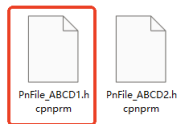
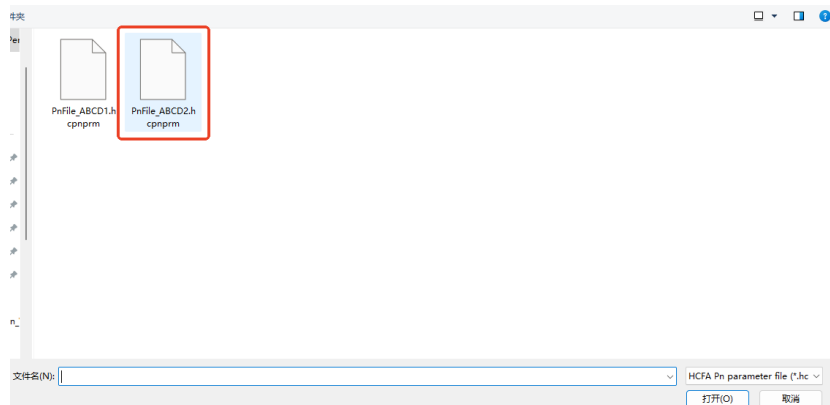
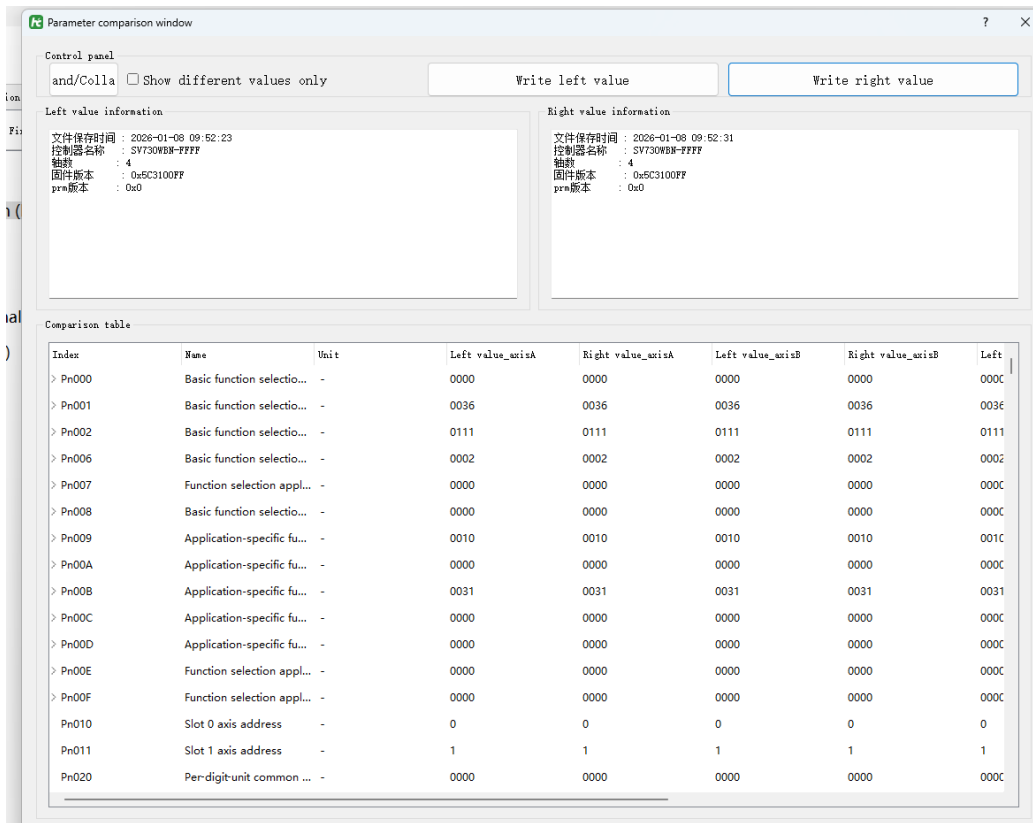

Figure2-21
Figure2-22
Figure2-23
12) Click the icon next to the Compare Current Values – Factory Defaults button and select the File Comparison option. This will open the Import Left Value dialog as shown in Figure 2-21. After confirming and opening the first file, the Import Right Value dialog (Figure 2-22) will appear. Once both files are loaded, the parameter comparison view shown in Figure 2-23 will be displayed.